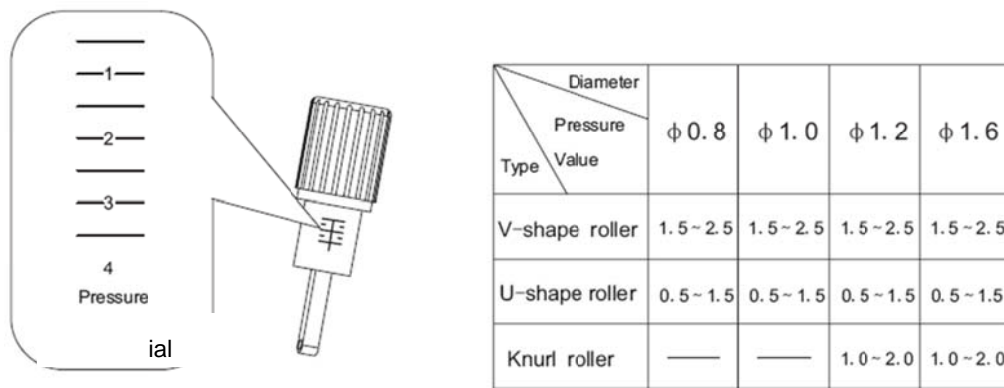

Fig. 3-5-3: Wire feed rollers installation parameter
Suitable pressures for wires of different materials and diameters are as shown in Fig. 3-5-3.
**Important!** There is a scale for wire feeding pressure on the Pressing Handle (Fig. 3-5-3), different